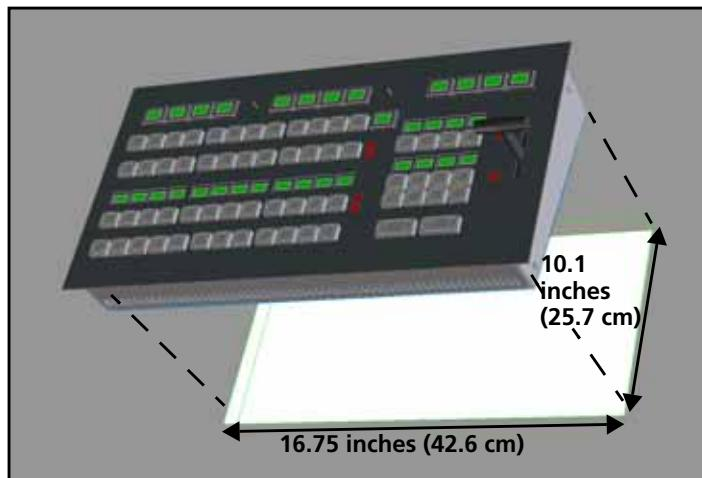
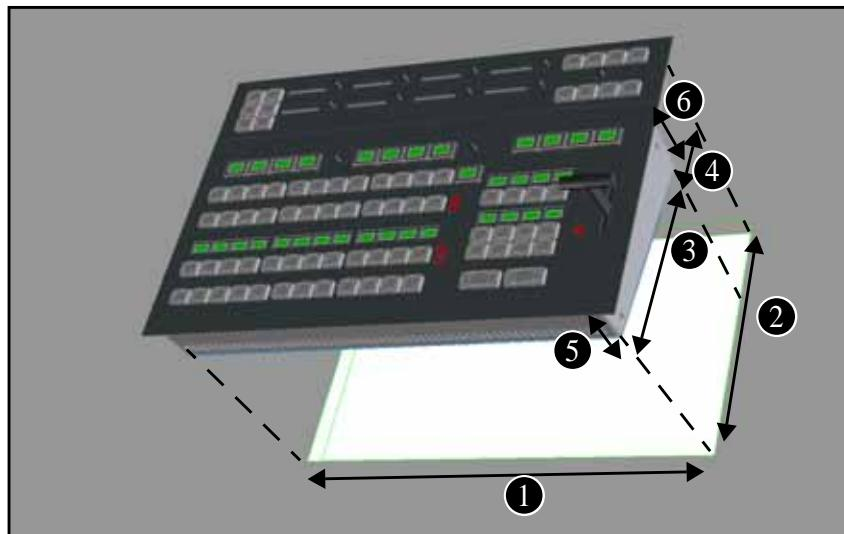

Figure 2-8 Desk or Tabletop Mount of Main Control Panel Alone
Figure 2-9 Desk or Tabletop Mount of Main and Audio Control Panels
- 1 Using the dimensions shown in Figure 2-8 (for the main control panel only) or Figure 2-9 (for the main and audio control panels together), make a cutout in the desk or tabletop.